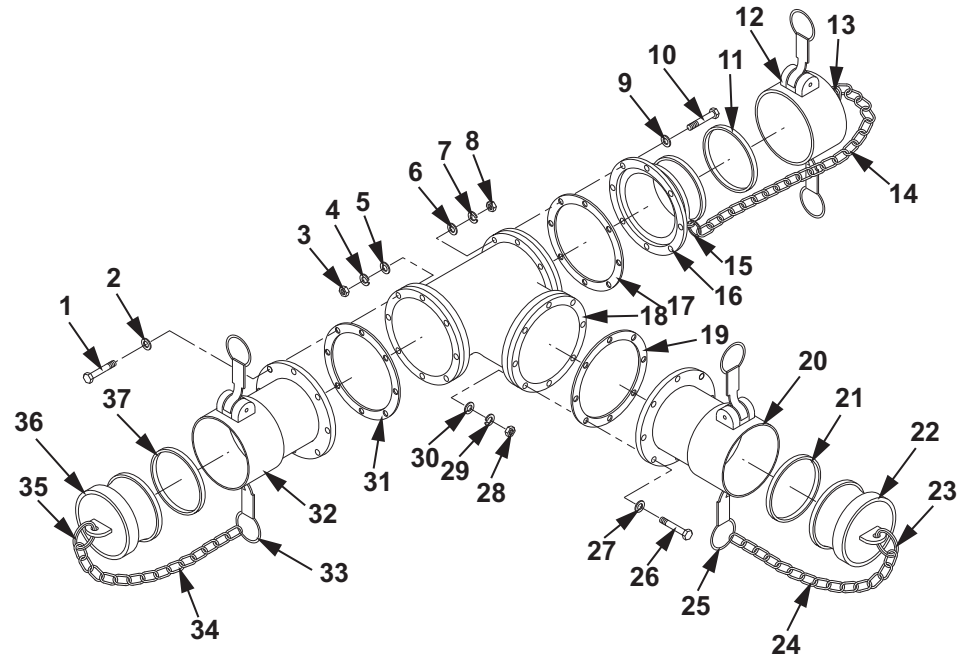

Figure 1. 4 In. Female X 4 In. Male X 4 In. Female Tee Disassembly.
1. Remove quick disconnect dust cap (Figure 1, Item 12) and gasket (Figure 1, Item 11) from coupling (Figure 1, Item 16).
2. Remove quick disconnect dust plug (Figure 1, Item 22) and gasket (Figure 1, Item 21) from coupling (Figure 1, Item 20).
3. Remove quick disconnect dust plug (Figure 1, Item 36) and gasket (Figure 1, Item 37) from coupling (Figure 1, Item 32).
4. Discard gaskets (Figure 1, Item 11, 21, 37).
5. Remove eight nuts (Figure 1, Item 8), lockwashers (Figure 1, Item 7), washers (Figure 1, Item 6), screws (Figure 1, Item 10), washers (Figure 1, Item 9), coupling (Figure 1, Item 16) and gasket (Figure 1, Item 17) from tee (Figure 1, Item 18).
6. Discard gasket (Figure 1, Item 17) and lockwashers (Figure 1, Item 7).
7. Remove eight nuts (Figure 1, Item 28), lockwashers (Figure 1, Item 29), washers (Figure 1, Item 30), screws (Figure 1, Item 26), washers (Figure 1, Item 27), coupling (Figure 1, Item 20) and gasket (Figure 1, Item 19) from tee (Figure 1, Item 18).
8. Discard gasket (Figure 1, Item 19) and lockwashers (Figure 1, Item 29).
9. Remove eight nuts (Figure 1, Item 3), lockwashers (Figure 1, Item 4), washers (Figure 1, Item 5), screws (Figure 1, Item 1), washers (Figure 1, Item 2), coupling (Figure 1, Item 32) and gasket (Figure 1, Item 31) from tee (Figure 1, Item 18).
10. Discard gasket (Figure 1, Item 31) and lockwashers (Figure 1, Item 4).
11. Remove split ring (Figure 1, Item 13) from quick disconnect dust cap (Figure 1, Item 12).
12. Remove split ring (Figure 1, Item 13) from chain (Figure 1, Item 14).
13. Remove split ring (Figure 1, Item 15) from coupling (Figure 1, Item 16).
14. Remove split ring (Figure 1, Item 15) from chain (Figure 1, Item 14).
15. Remove split ring (Figure 1, Item 23) from quick disconnect dust plug (Figure 1, Item 22).
16. Remove split ring (Figure 1, Item 23) from chain (Figure 1, Item 24).
17. Remove split ring (Figure 1, Item 25) from coupling (Figure 1, Item 20).
18. Remove split ring (Figure 1, Item 25) from chain (Figure 1, Item 24).
19. Remove split ring (Figure 1, Item 35) from quick disconnect dust plug (Figure 1, Item 36).
20. Remove split ring (Figure 1, Item 35) from chain (Figure 1, Item 34).
21. Remove split ring (Figure 1, Item 33) from coupling (Figure 1, Item 32).
22. Remove split ring (Figure 1, Item 33) from chain (Figure 1, Item 34).